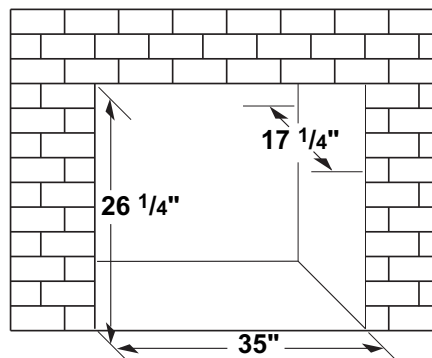

Figure 20 - Rough Opening for Installing in Masonry Fireplace
1. Use dimensions shown in **Figure 20** for masonry fireplace opening.